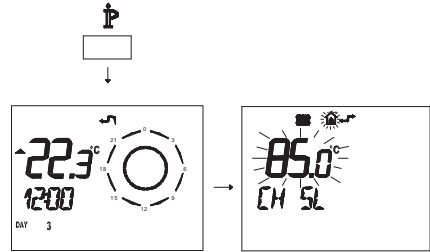

Fig. 7.22
- Press button \bar{P} for more than 3 seconds to enter in *INFO* (Fig. 7.22) mode.